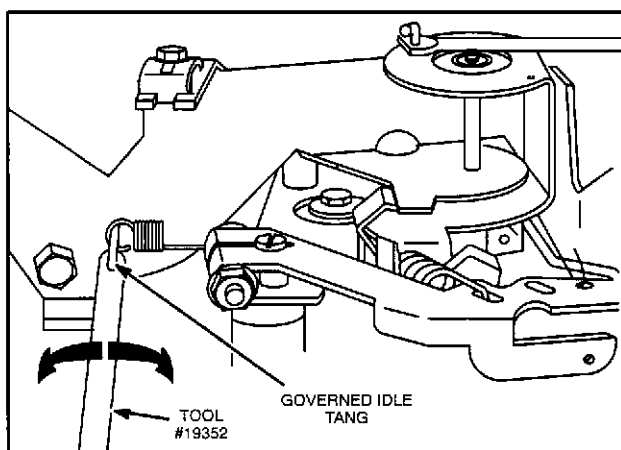

Fig. 16 - Adjusting Governed Idle
1. Turn fixed speed adjustable control nut counter-clockwise until control swivel contacts slow speed stop. With an accurate tachometer and tang bender, bend governed idle tang (Fig. 16) to obtain RPM shown below: